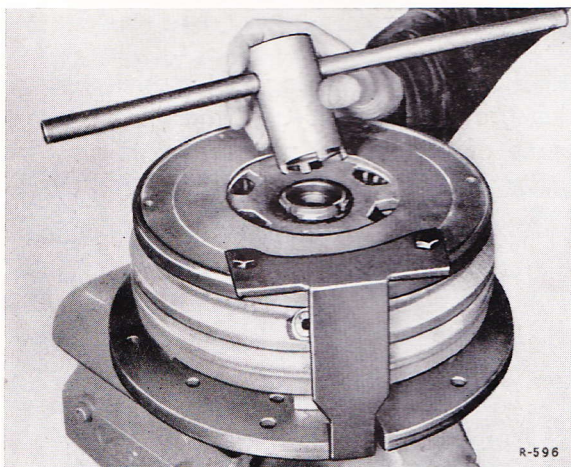

Fig. 25-2/2
4. Pull off the drive plate, using a suitable twin-claw puller (Fig. 25-2/3). The puller must be placed with the claws pointing to the inside.